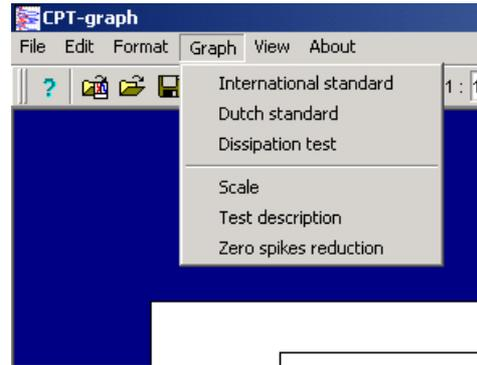

Fig. 4-12: Graph Menu
The same Graph Setting panel is activated when clicking on Graph and **International Standard** (Fig. 4-12). In addition to the parameter, recorded or calculated, which can be displayed in the Penetration mode, described under 3.1.2, the Presentation module has the following additional ones:
1. The presentation and printing of CPT graphs according to the **International Standard** is chosen under the Graph Menu (Fig. 4-12) and is described above, 4.2.1, Opening a File, Graph Setting.